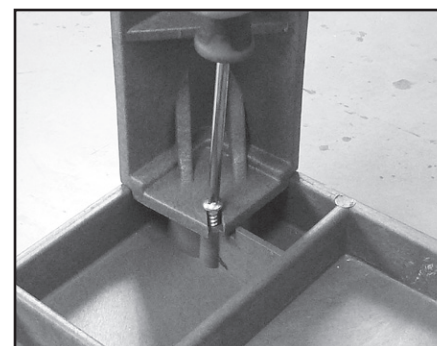

Figure 3
3. Secure Leg to Shelf with a phillips head screw. (Figure 3)